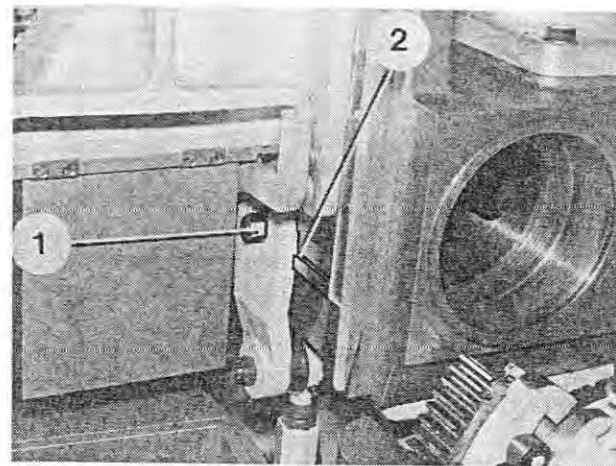

Fig. 215
17. Loosen the hex nut (Figure 215/1) a few turns. Pull the connecting piece out of the groove of the pusher plate (Figure 215/2) and the pusher plate with the filling cock out of the guide upwards. Clean the pusher plate.